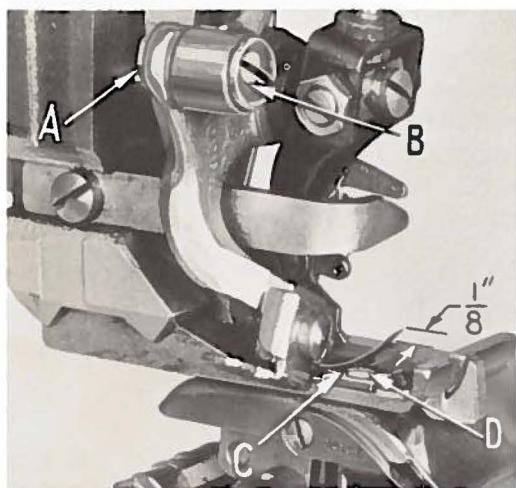

Fig. 7
Normal needle stroke setting is correct when the point protrudes approximately  $1/8$  inch beyond the right edge of presser foot at the end of its right stroke (Fig. 7). Increase to approximately  $5/32$  inch if a larger needle loop is required. If adjustment of the needle stroke is necessary, loosen the lock-nut (A, Fig. 7) and turn screw (B) to the right or left as required. Tighten the nut.
The needle should travel in the center of the groove in the needle guide (C, Fig. 7). If the needle is deflected from front to the back in its travel, loosen screw (D) holding the needle guide and allow needle to position the guide. Retighten the screw.